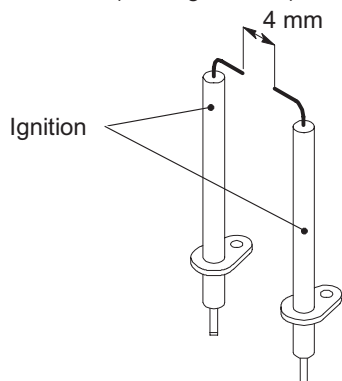

Figure 15.2
- 2 Check for the correct distance between the metallic edges of the ignition electrodes (see Figure 15.2).